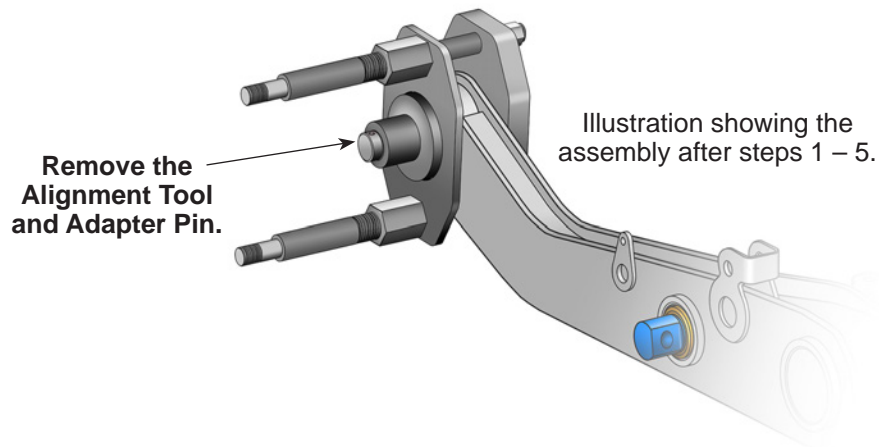

Figure 18
5. Tighten the clamping nuts to the clamping plate. See Figure 18.